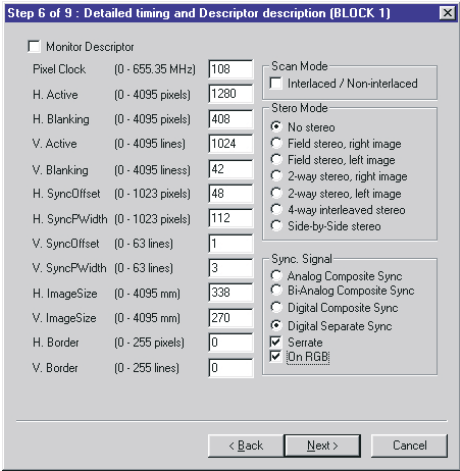

Fig.23
5. Click Next , bring up Fig. 23